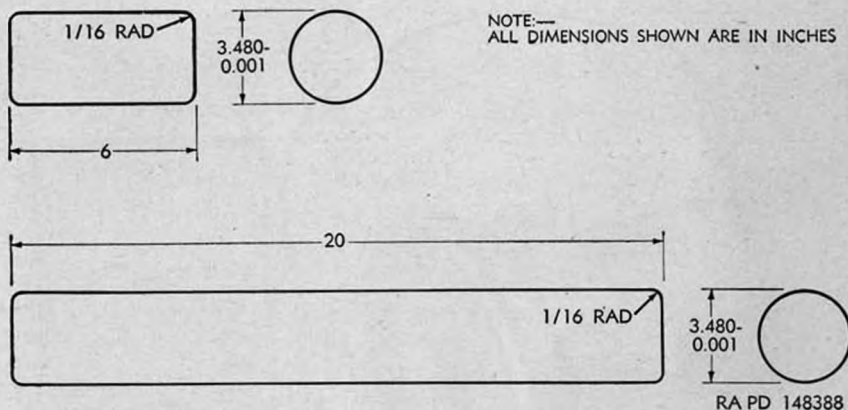

Figure 53. Improvised plug gages.
Barrels will be inspected for unpainted surfaces and dents. The 6-inch improvised plug gage (fig. 53) should pass freely through the tube when the front and rear barrels are assembled in the three possible positions. The 20-inch improvised plug gage should pass freely through each front and rear tube.
a. *Bore.* The bores of the launchers M20 and M20B1 are to be gaged with a plug gage. The 6-inch improvised plug gage (fig. 53) must pass freely through the tubes when they are assembled in the three possible positions. If the gage fits tightly, or if it fails to pass through the length of the tube freely, the launcher must be removed from service.